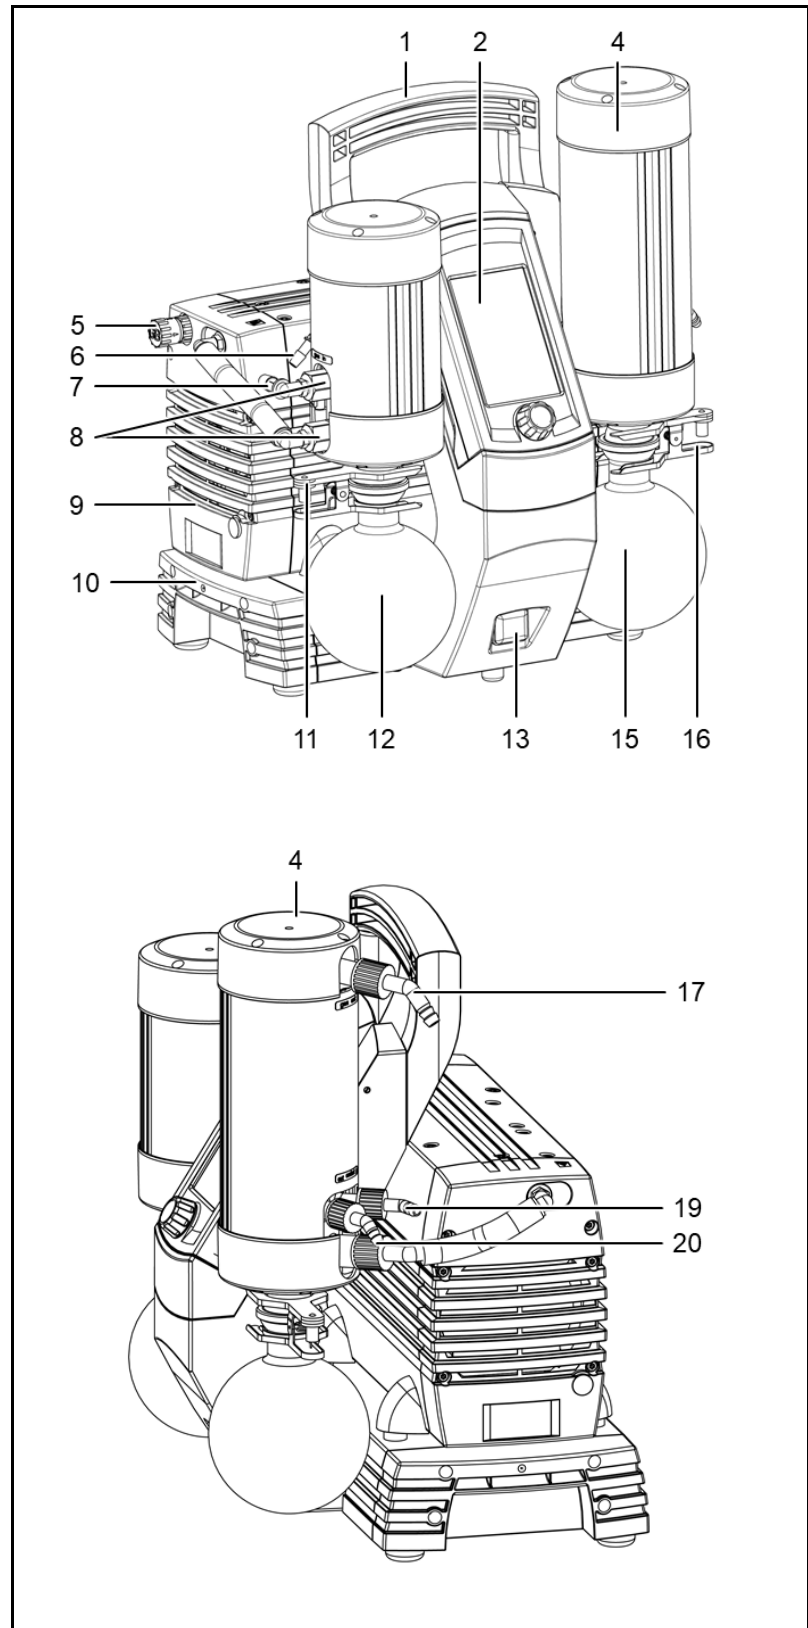

Fig. 2: Vacuum pump system SC 920G
Ventilating the vacuum pump system When ventilating the vacuum pump system with air or inert gas, be sure to prevent formation of reactive or explosive media. The maximum permissible operating pressure at the ventilation connection (Fig 2/5, page 11) is 0.1 bar g.
Collection flask (Fig. 2/12) collects on the suction side of the pump particles and drops that were, contrary to the requirements of the pump, suctioned from the vacuum chamber. The collection flask is coated (implosion protection) and fastened to the vacuum pump system via a flask clip.
Solvents deposited in the high-performance condenser are collected in the coated (for explosion protection) collection flask (Fig. 2/15). A flask clip secures the glass flask to the condenser flange. A recirculating cooler or continuously flowing cold water cools the high-performance condenser to the condensation temperature.
Gas ballast The gas ballast switch (Fig. 2/5) can be used to open and close the gas ballast valve on the vacuum pump system's pump (see Chapter 5.5).
1. Connect the vacuum chamber to the gas inlet's hose connector (Fig. 2/7, page 11, for hose inside diameter of 10 mm). For this, vacuum tubing must be used.
2. Connect hose to high-performance condenser in order to discharge gas exhaust (Fig. 2/17, page 11).
3. Attach coolant feed and return to high-performance condenser (Fig. 2/19 and 20, page 11).
4. If necessary: Connect inert gas supply to ventilation connection (Fig. 2/6, page 11). Observe the safety instructions in chapter 3.